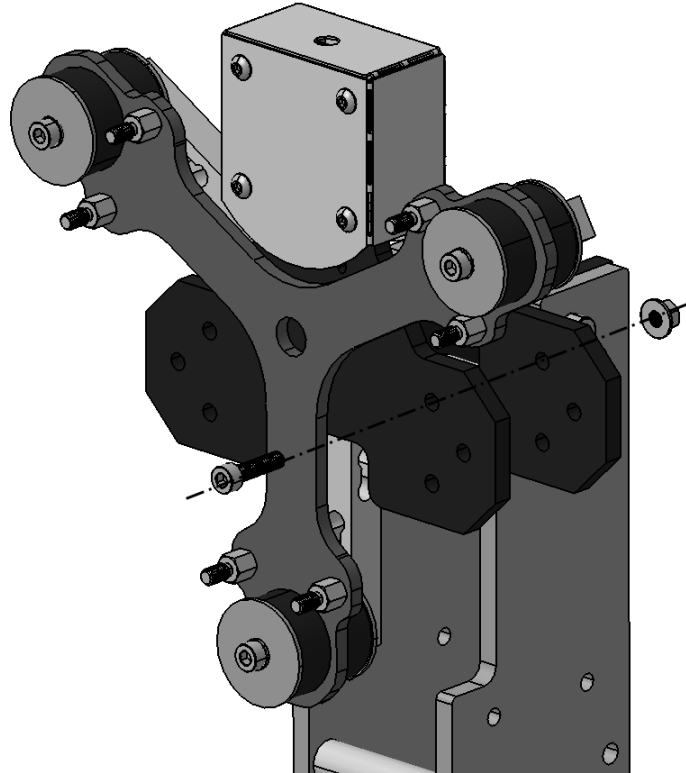

Fig 4.18: Fasten the load measurement unit on the support
- ❑ Place the load measurement unit (#XBKH, #RJGT, #QEAT or #HDKJ) onto the support, aligning these upper and lower holes shown in Fig. 4.18.